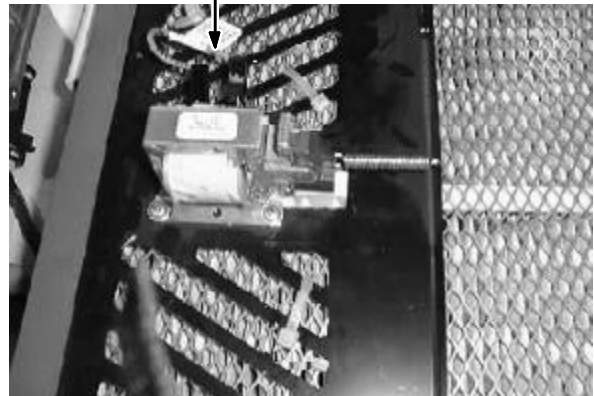

FIG. 4
3. Unplug the two electrical connections from the filter shaker solenoid. (Refer to FIG. 4)